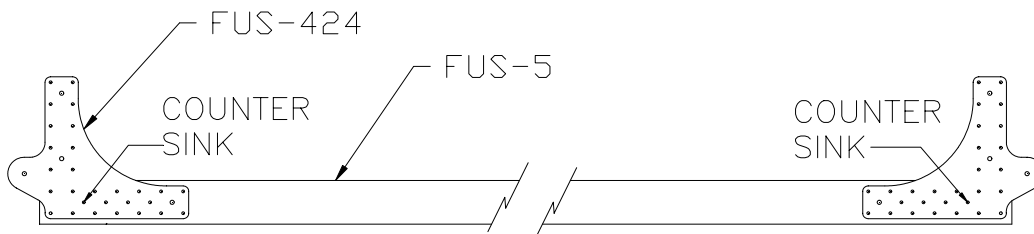

Figure 9.5.2
- 2) Cleco one FUS-424 to each end of the trimmed FUS-5. Drill all the #30 holes to #11. The center row shown. The most outboard hole of these will need countersinking to clear upright. Figure 9.5.2